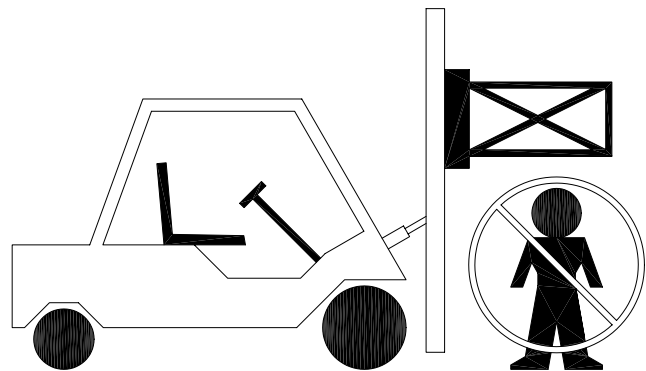

Figure 2-2
10. **Never** position an attachment or load over people. (Figure 2-2)